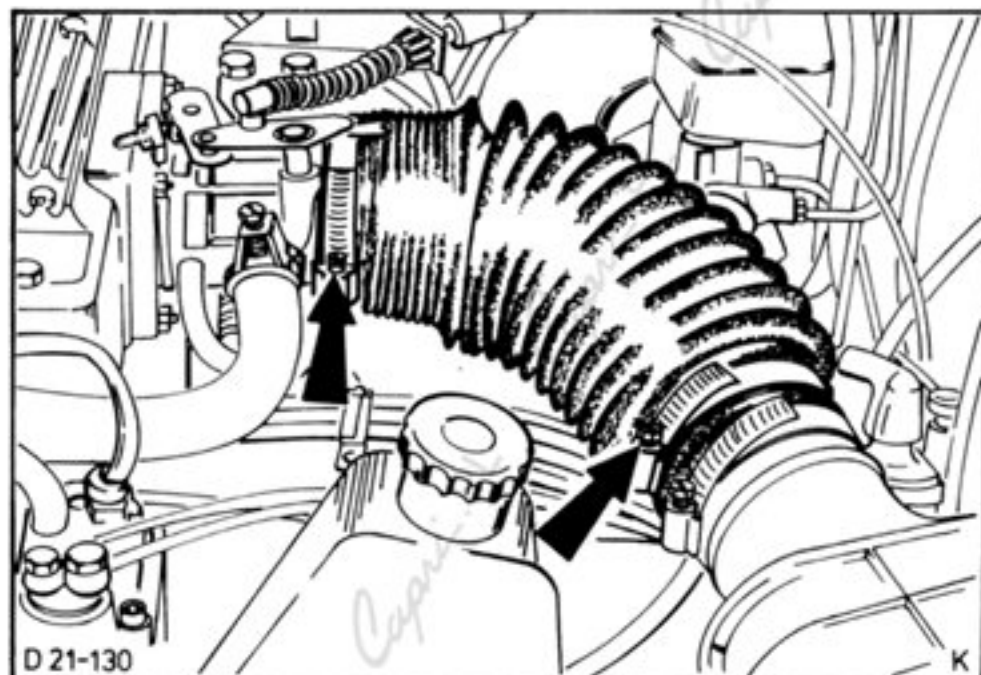

Fig.19. Connecting hose to intake silencer in installation position.
34. Attach throttle cable with bracket to throttle lever and fit connecting hose to intake silencer, paying attention to installation position as shown in Fig.19.